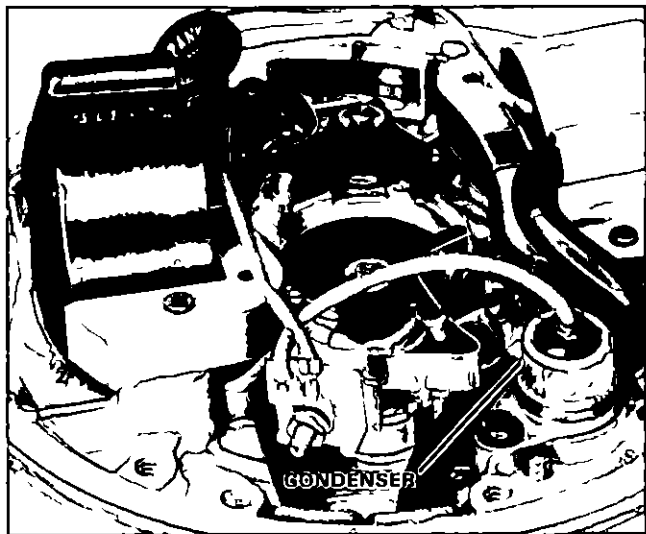

Figure 32 Installing Condenser.
- 2 Turn selector knob to "CONDENSER CAPACITY" position Figure 32
1 Install condenser on stator plate and secure with screw as shown in Figure 32.
- 6 Connect lead wire from top of coil to insulated terminal on breaker point as shown in Figure 32